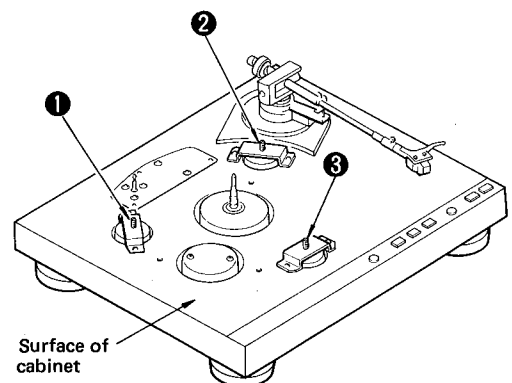

Fig. 1
1. Adjust so that the space between platter and surface of cabinet is $4 \text{ mm} \pm 0.2 \text{ mm}$ by turning screws ① to ③ in Fig. 1.